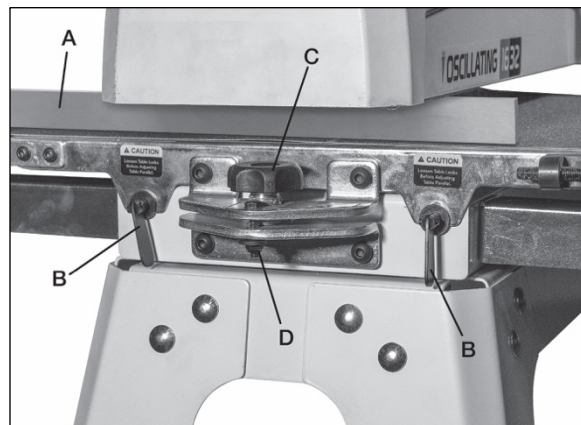

Figure 8-3: Drum Alignment
3. Insert gauge between drum and conveyor table at outboard side of drum (A, Figure 8-3).
7. Loosen both table locks (B, Figure 8-3)
3. If a ridge is visible where the drum overlaps, lower table at outboard end slightly by turning knob (C, Figure 8-3).
Note: When sanding narrow stock (less than 16"), return conveyor table to parallel position. Turn knob opposite direction until lock nut (D, Figure 8-3) is contacted. The lock nut provides a positive stop for table parallelism.